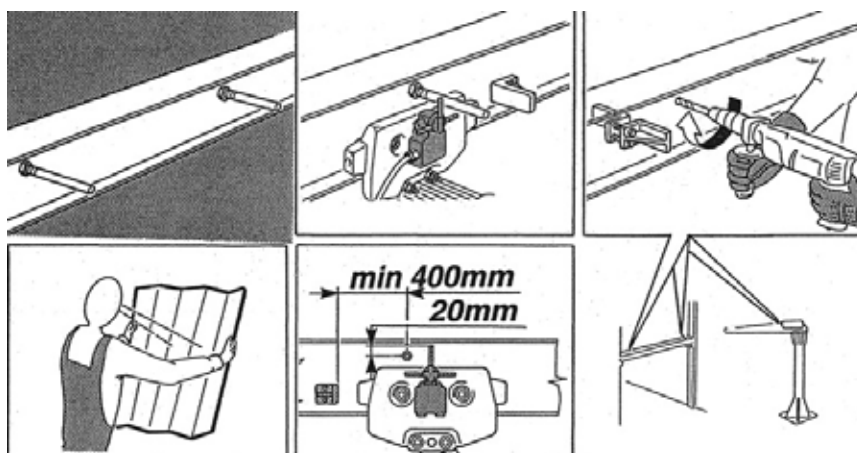

fig.30
1. Drill a $\varnothing 10.5$ mm hole in the beam web at each end, at a distance of not less than 400 mm from the stops and 20 mm below the microswitch probe. (fig.30)